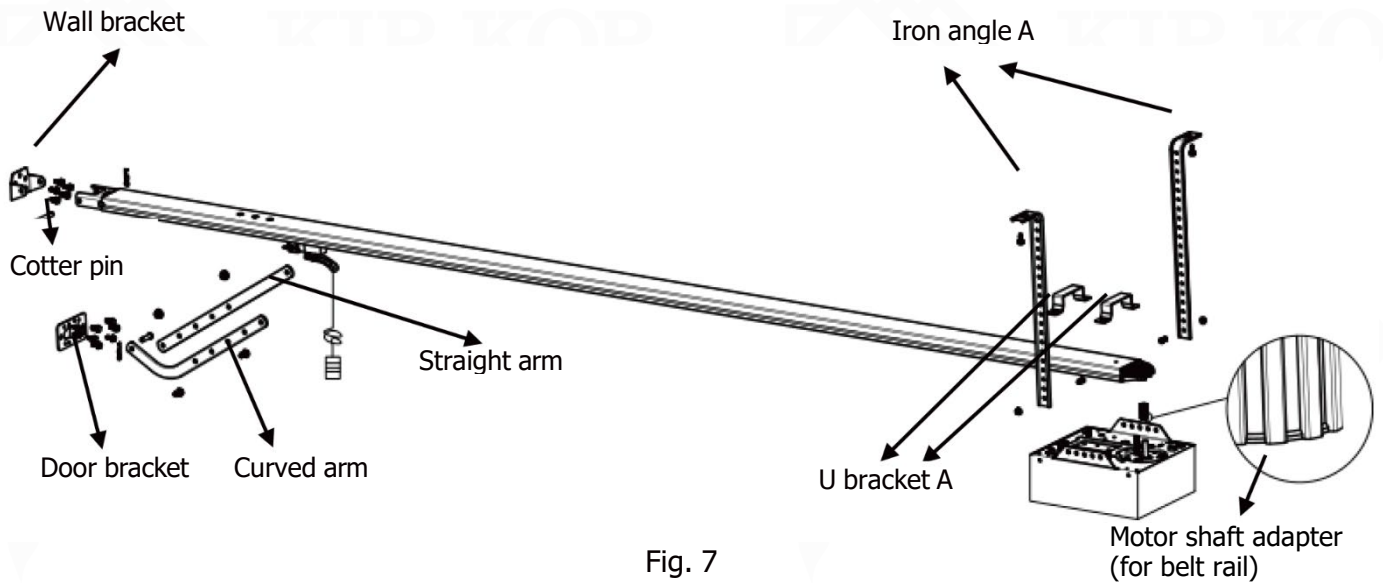

Fig. 7
- 3) Attach the motor shaft adapter to the motor shaft according to Fig. 7.
- 7) Install according to Fig. 7